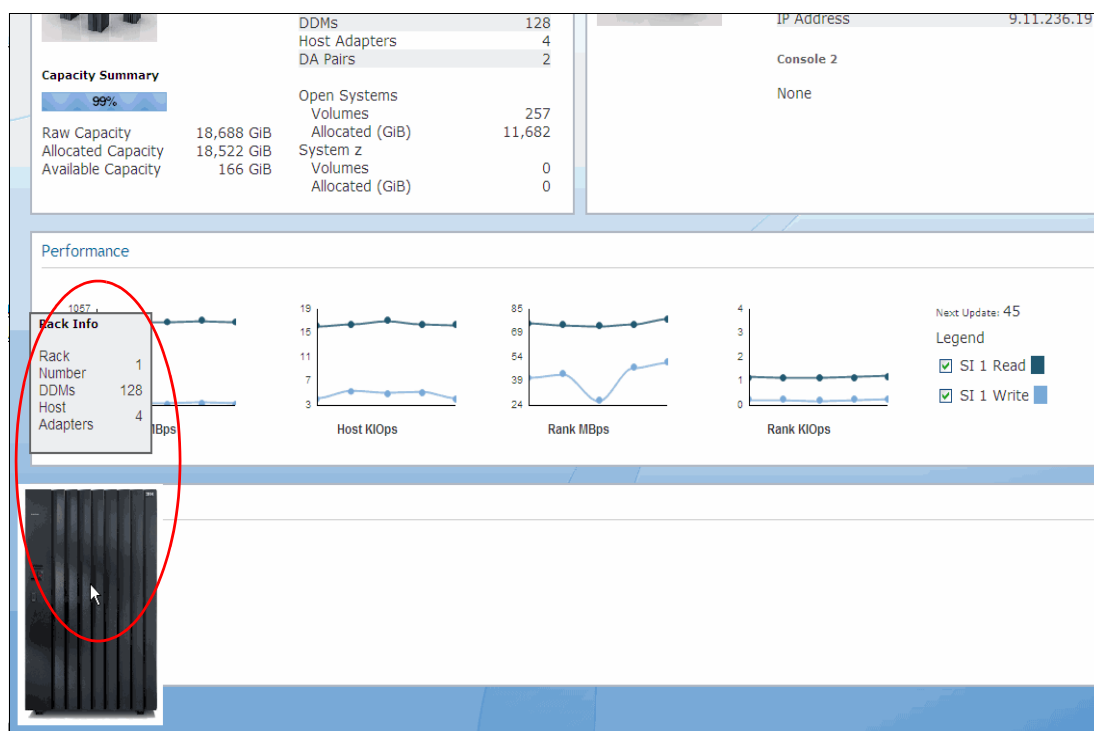

Figure 13-77 System Summary: Rack information
3. In the Rack section, the number of racks shown matches the racks physically installed in the storage unit. If you position the mouse pointer over the rack, additional rack information is displayed, such as the rack number, the number of DDMs, and the number of host adapters (see Figure 13-77).